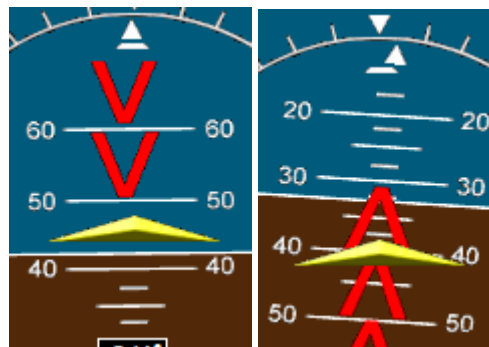

Figure 3.3
3. **pitch scale** - Vertically moving “ladder” scale used with the stationary aircraft and wing representations to indicate angle of pitch. Scale moves down when the pitch angle is greater than 0, and move up when pitch angle is less than 0. Major tick marks are present every 10 degrees of pitch, and minor tick marks at 2.5 and 5 degrees of pitch. Red colored extreme pitch warning chevrons pointing toward the horizon are displayed starting at 50° above and 30° below the horizon line to indicate extreme pitch angles (Figure 3.3).